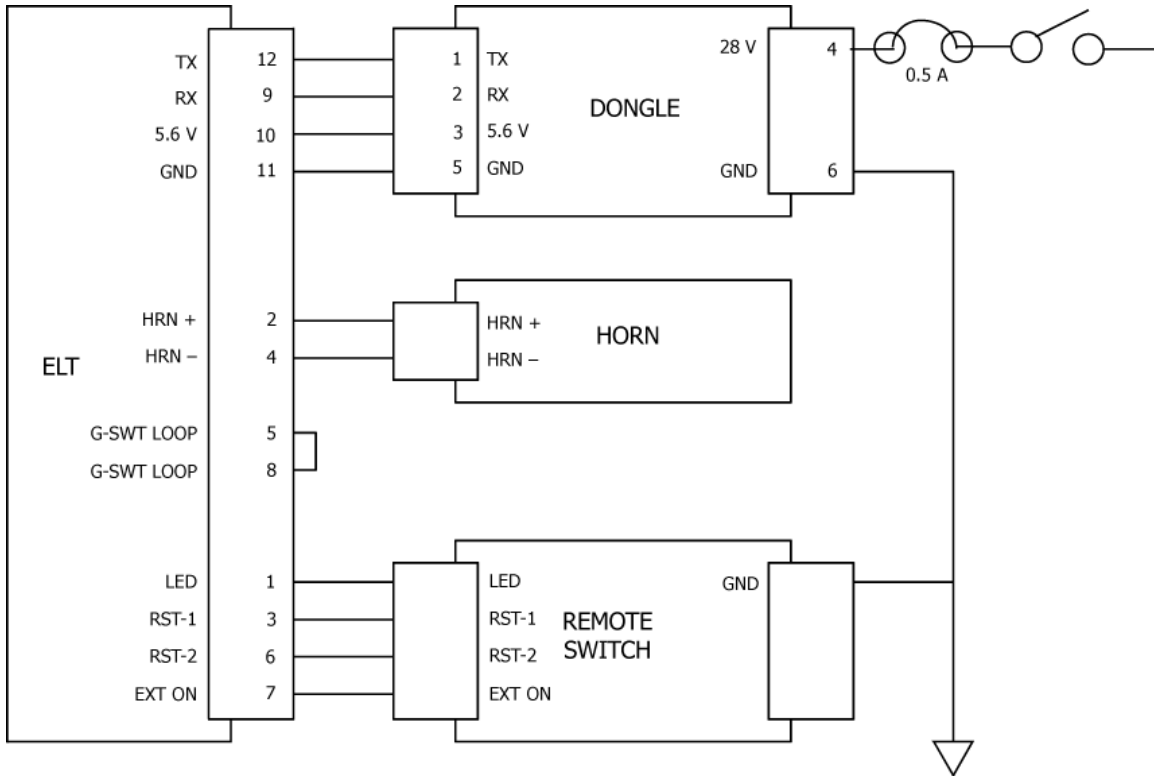

Figure 8 Dongle Wiring Diagram
- 1) Refer to Figure 8 Dongle Wiring Diagram on page 24.
- 4) Assemble the wire harness with the Dongle wire harness (P/N 611-4010). See Figure 8 Dongle Wiring Diagram on page 24.
- For installations of an ELT/Dongle, splice the black wire to an aircraft ground point near the ELT. See Figure 8 Dongle Wiring Diagram on page 24.